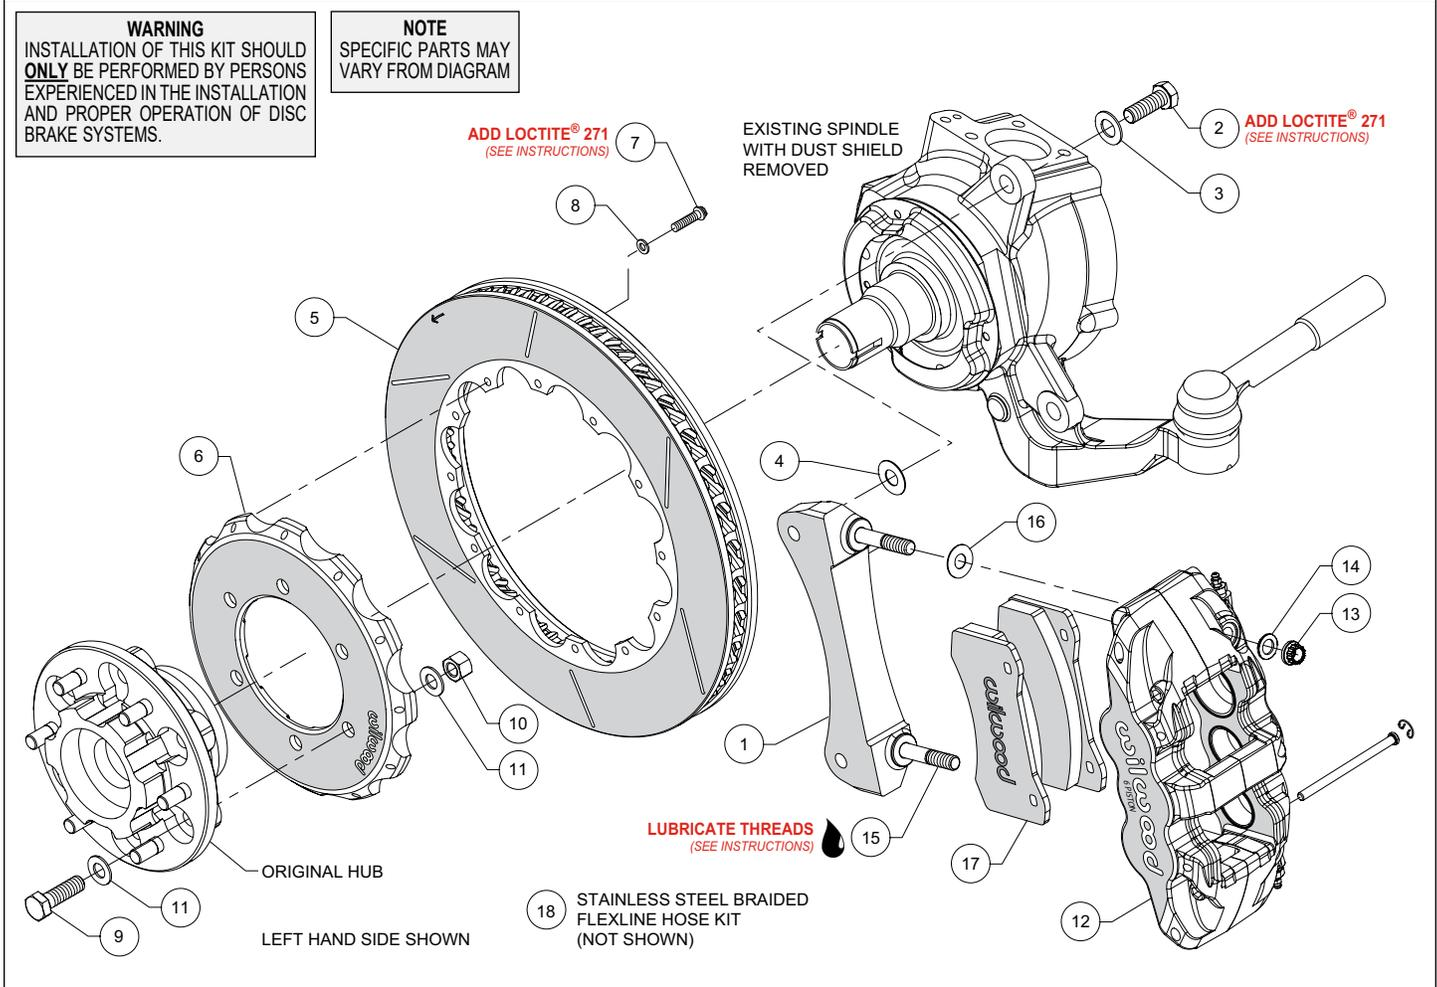
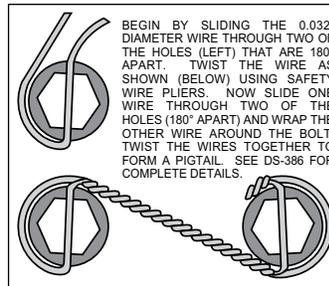

Figure 1. Typical Installation Configuration
Figure 3. Safety Wire Diagram
Assembly Instructions (numbers in parenthesis refer to the parts list and Figure 1 on the preceding pages):
- The caliper mount bracket (1) should initially be installed with clean, dry threads on the mounting bolts. Orient the bracket as shown in Figure 1 and Photo 1, install using bolts (2) and washers (3). Initially place one .029 thick shim (4) on each bolt between the bracket and upright, Figure 1. Temporarily tighten the mounting bolts. **NOTE: The bracket must fit squarely against the mount bosses on the upright.** Inspect for interference from casting irregularities, machining ridges, burrs, etc. Later, after the caliper alignment has been checked, the mount bolts will be secured using red *Loctite*® 271.
- Orient the rotor (5) and the hat (6) as shown in Figure 1 and Photo 2. Attach rotor to hat using bolts (7) and washers (8). Apply red *Loctite*® 271 to the bolt threads and torque to 155 in-lb using a criss-cross pattern. For an added measure of security, the bolts may be safety wired using standard 0.032 inch diameter stainless steel safety wire as shown in Figure 3. Please refer to Wilwood's data sheet DS-386 (available at www.wilwood.com/Pdf/DataSheets/ds386.pdf) for complete safety wire installation instructions.
- Install the saved OEM hub to the hat (6) using bolts (9), lock nuts (10) and washers (11) as shown in Figure 1, Photos 3 and 4. **NOTE: The hat must fit flush against the hub flange or excessive rotor run out may result.** Torque the lock nuts to 60 ft-lb.
- **NOTE: This kit contains distinct right and left hand calipers that must be mounted in a specific direction, as described below.** Lubricate the caliper mounting studs (15) with lightweight oil. Initially place one .030" thick shim (16) on each stud as shown in Figure 1 and Photo 6. Mount the caliper (12) onto the bracket (1) using lock nuts (13) and washers (14), Figure 1. Ensure that the caliper is mounted so that the largest pistons are at the rotor exit end of the caliper, in relation to the direction of rotor rotation. Temporarily tighten the lock nuts and view the rotor through the top opening of the caliper. The rotor should be centered in the caliper, Photo 7. If not, adjust by adding or subtracting shims (4) between the bracket and the upright. Always use the same amount of shims on each of the two mounting bolts. Once the caliper alignment is correct, remove the bracket mounting bolts (2) one at a time, apply red *Loctite*® 271 to the threads, and torque to 77 ft-lb.
the bottom, Figure 1 and Photo 8. With the friction material facing the rotor, secure the brake pads in place with the pad retaining pins and clips, Photo 9. Reinstall the caliper onto the caliper mounting bracket and temporarily tighten the lock nuts. Check that the top of the brake pad is flush with the outside diameter of the rotor, Photo 10. If not, adjust by adding or subtracting shims (16) between the caliper and the bracket. After the caliper pad height is set, torque the caliper lock nuts (13) to 47 ft-lb.